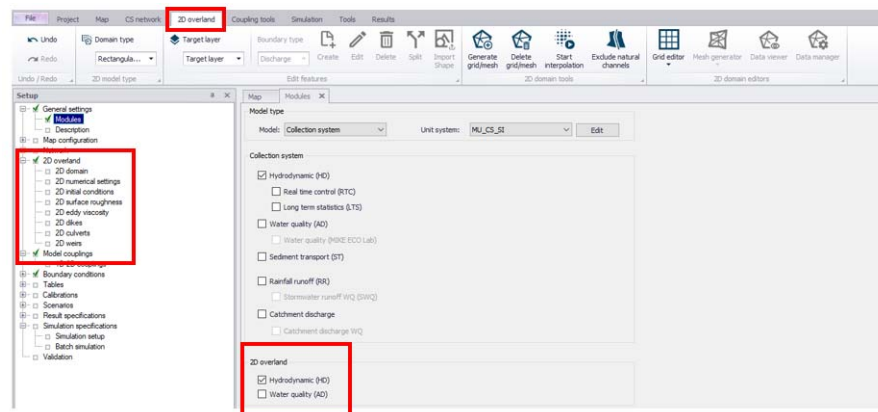

Figure 3.1 Activate the Hydrodynamic (HD) 2D Overland module to access editors for building 2D Overland models in the MIKE+ Setup Tree View.
Activating the Hydrodynamic (HD) module provides access to 2D Overland model editors in the Setup tree view (Figure 3.1).